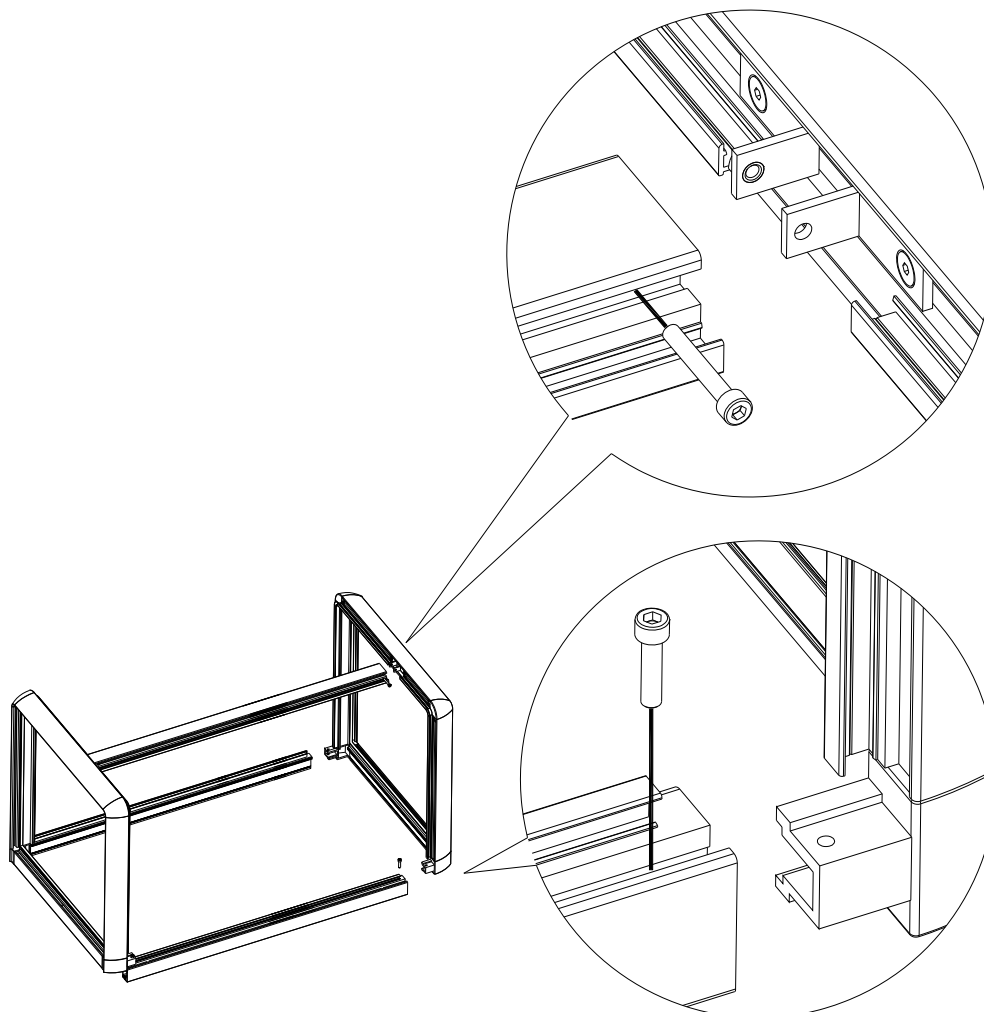

Figure 30: exploded view sound shield Whisper 6 Ultra
- 2 The sound shield can be disassembled according to exploded view below (figure 30).